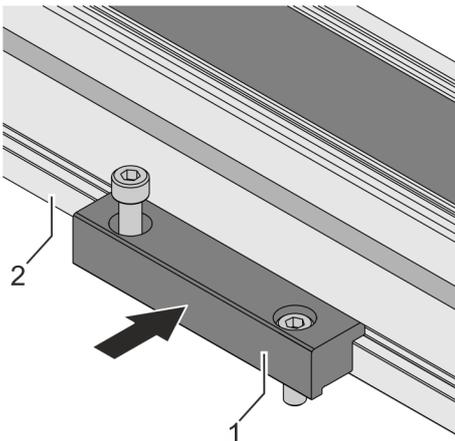

Fig. 18: Inserting clamping bars
1. ➤ Insert clamping bars (Fig. 18/1) into the slot of the guide profile.
*Depending on the length of the linear unit, 2 or more clamping bars must be inserted on each side of the guide profile (Fig. 18/2).*